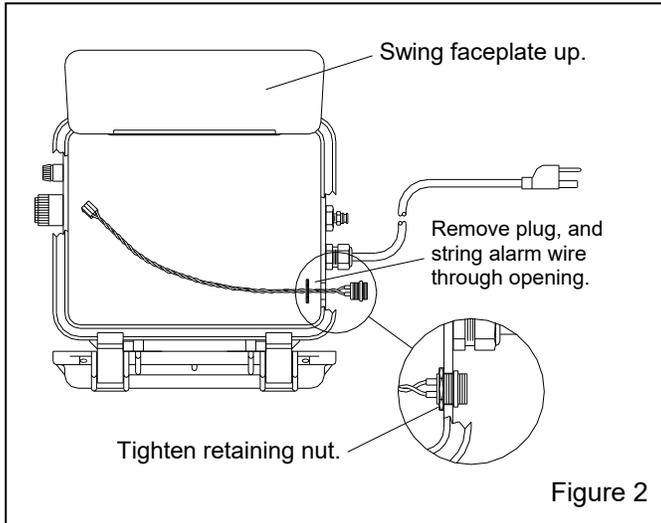

Figure 2
2.4 Remove the plug from the hole located on the bottom of the CMS-1 case, and on the right side of the CMS-2 case. Ref. Figure 2 (CMS-2 is shown for reference).
2.5 String the plug end of the alarm wire through the case opening and slide the retaining nut onto the wire, as shown in Figure 2. Push the cable connector firmly into the case and tighten the retaining nut to secure.